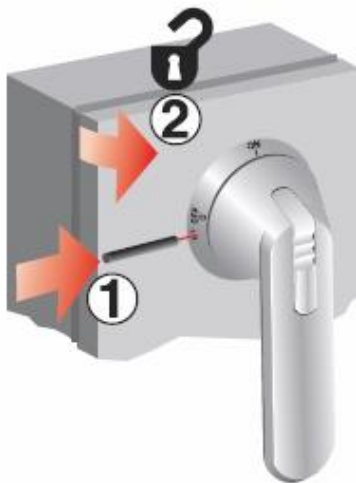

Figure 2 Defeating the Switch Handle
With the switch ON, the door interlock may be defeated with a slender tool to allow the door to open (see item 1 on figure 2). The door interlock reactivates automatically when the enclosure door is closed.